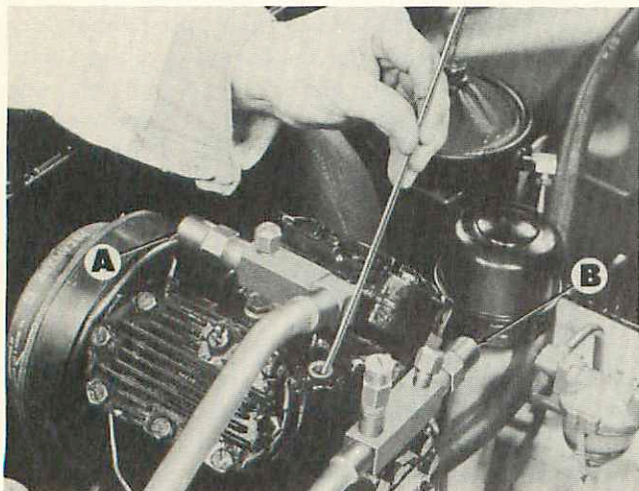

Figure 4
1. Remove the shut off valve caps "A" and "B," figure 4, and fully close the valves by turning the valve stems all the way in.
2. The oil level is checked as shown in figure 4, by removing the cap screw and using a narrow scale or rod as a dipstick. The cap screw first